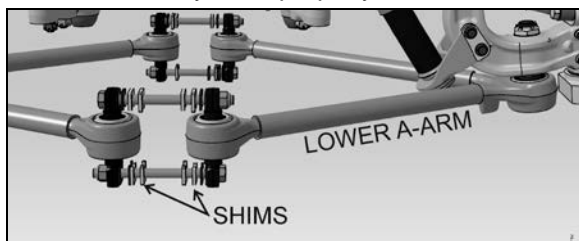
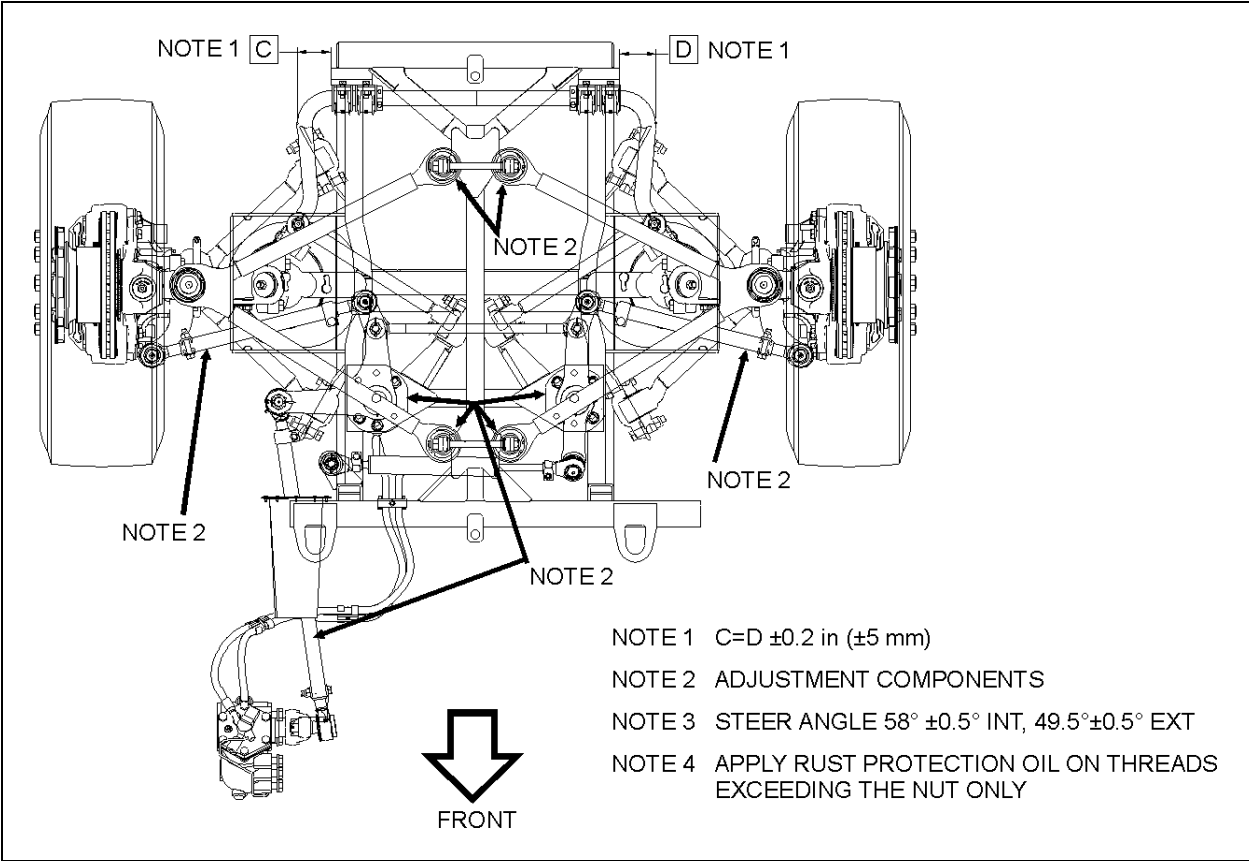
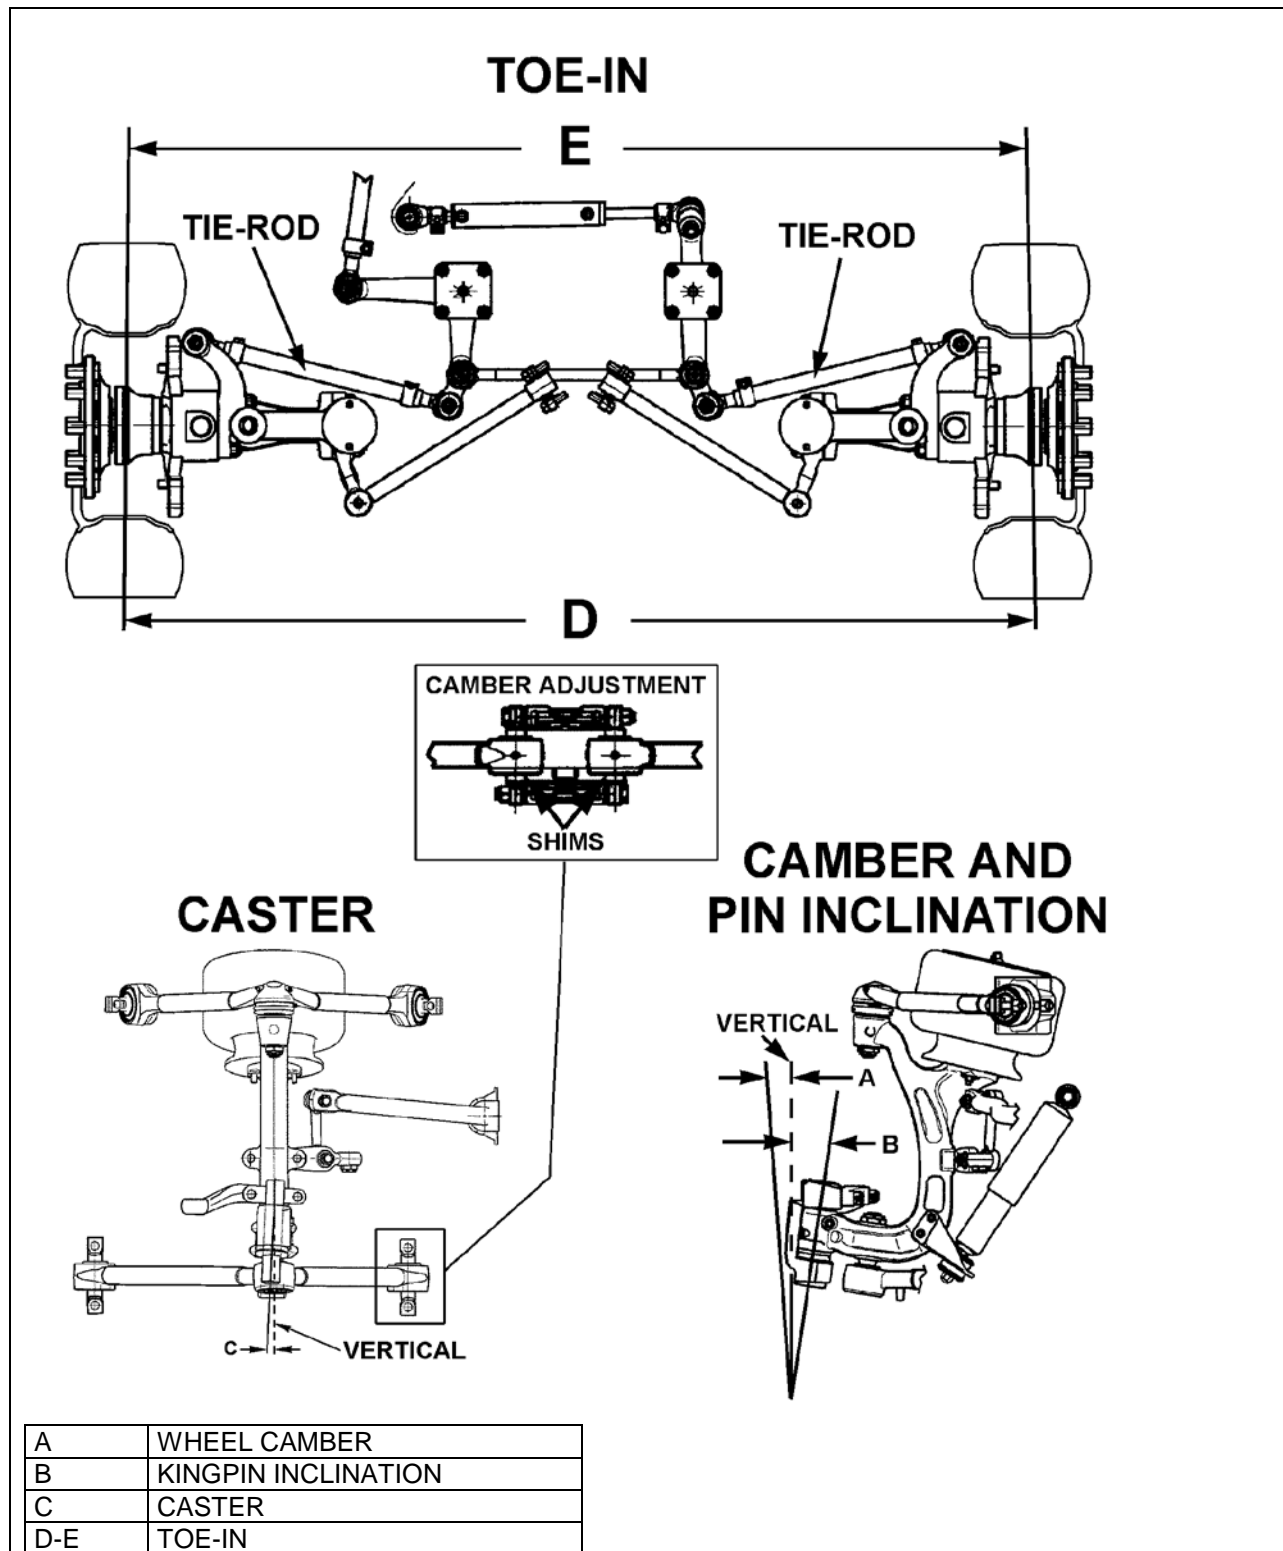

FIGURE 22: SHIMS AT THE LOWER A-ARMS
FIGURE 25: IFS ADJUSTMENT
FIGURE 26: FRONT END ALIGNMENT DIAGRAM
Wheel Camber: Camber is the number of degrees the top of the wheel is tilted inward or outward from a true vertical (Figure 26).
Wheel Toe-In: a slight forward convergence given to the wheels of motor vehicles to improve steering and equalize tire wear (D minus E, Figure 26).
Kingpin Inclination: The inclination of the kingpin from vertical toward the center of the vehicle at the top and outward at the bottom (B, Figure 26).
Front Axle Caster: The inclination of the kingpin from vertical in the fore and aft direction (C, Figure 26).
Shim the lower A-arm to adjust camber (Figure 22 & FIGURE 25). If the kingpin inclination is incorrect, the wheel kingpin assembly may be bent and therefore should be replaced.
2. Using a pipe wrench, turn the tie rod tubes to obtain the toe-in measurement specified in step 5 under paragraph "Toe-in Check" (Figure 26).
Caster variations may be caused by bent upper suspension A-arm, lower suspension A-arm, or kingpin housing. Caster should be adjusted with shims. Precision instruments should be used to measure caster. Shim bell crank and idler arm to adjust caster (Figure 26).
See FIGURE 25 & Figure 26.